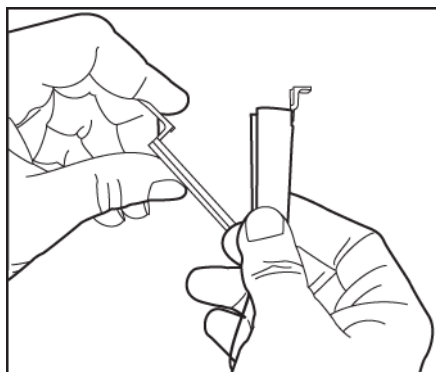

Fig. 7 Remove the cover from the disposable probe
- 3 When ready to attach the probe, take the probe from its sterile packing. Remove the cover from the disposable probe connector as shown (Figure 7).